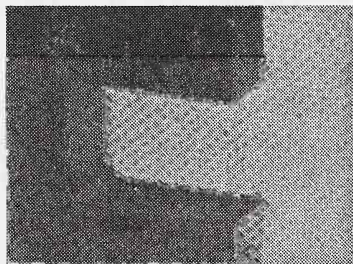

Fig. 18-32.
1. Cut the door using the template as a guide (Fig. 18-32).